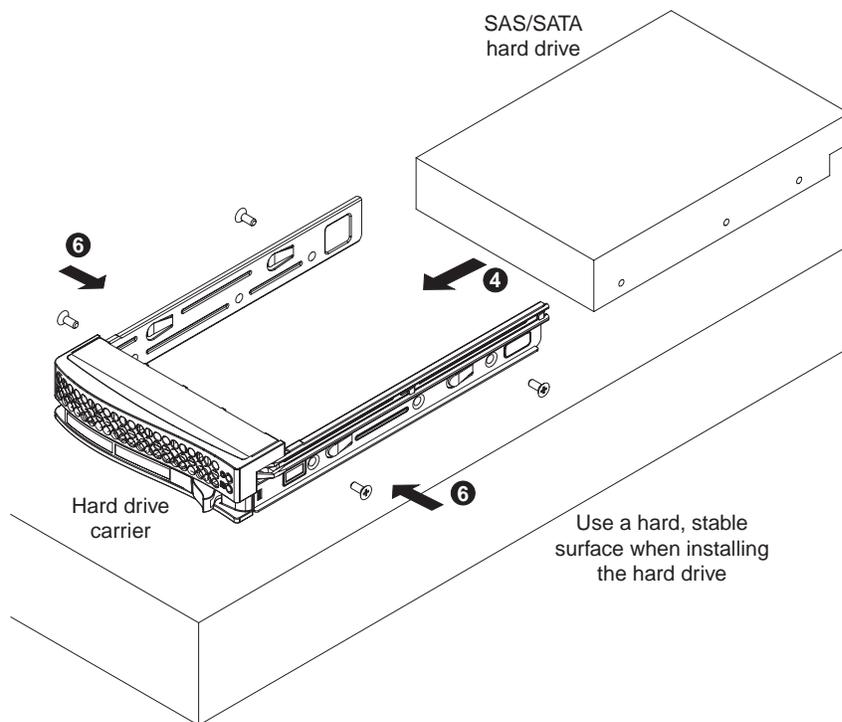

Figure 4-3 Installing a Drive into a Hard Drive Carrier
4. Slide the hard drive into the carrier with the printed circuit board side facing down (see Figure 4-3).
6. Secure the hard drive using all four screws (see Figure 4-3).